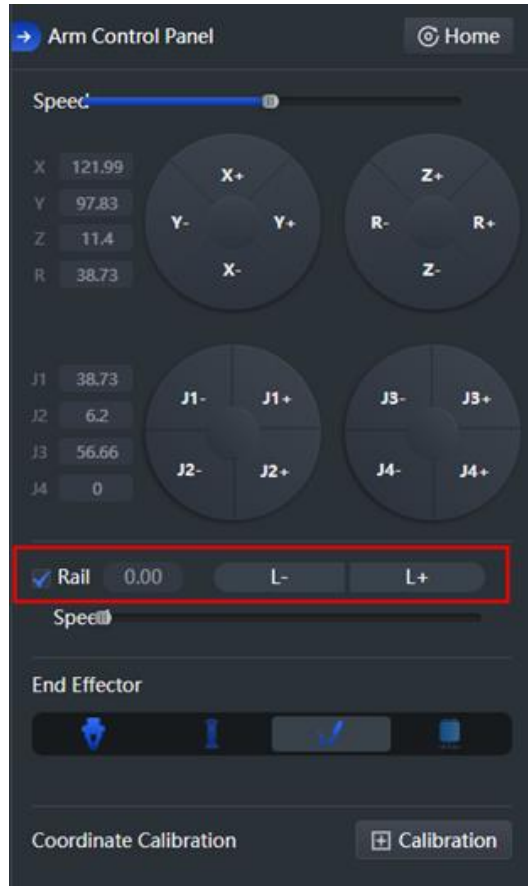

Figure 5.39 Enable sliding rail
- Step 1** Enable **Rail** on the arm control panel, as shown in Figure 5.39.